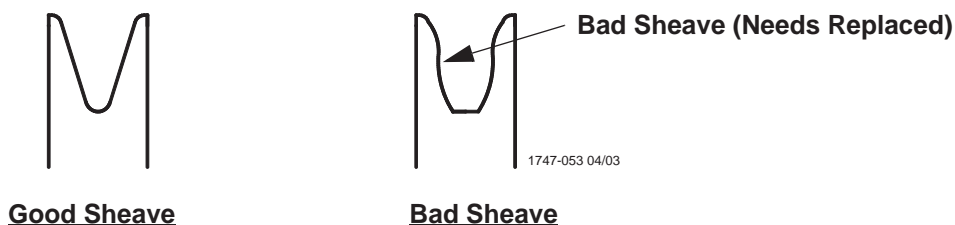

Figure 27. Sheave Condition
- Check Sheaves for wear. Replace if a Sheave groove is worn. (See Figure 27)